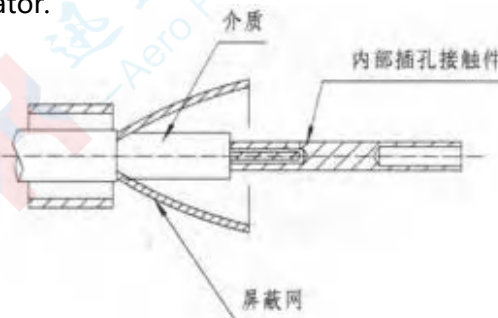

图26
③ Spread the shield layer outward and strip off the dielectric portion of the cable.
④ Pass the cable's center conductor through the socket contact as shown in Figure 26. The cable's center conductor must be visible through the inspection hole on the center socket contact, and the contact must firmly abut the insulator.